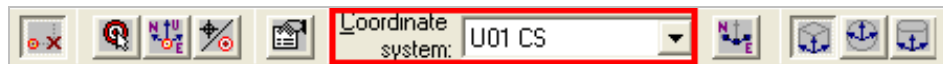

Figure 3: Coordinate System Option on the PinPoint Ribbon
2. Change the active coordinate system to **U01 CS** in the **Coordinate system** drop-down list on the **PinPoint** ribbon as shown in Figure 3.